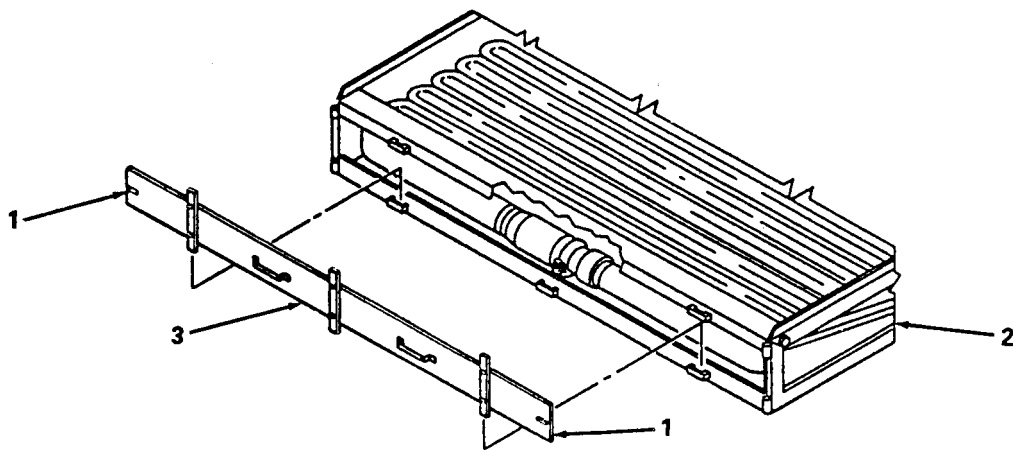

Figure 2-2. Removing Tailgate Assembly.
- (e) Using lifting shackles (6) as attachment points, securely tie flaking boxes to truck to prevent boxes from slipping during hose laying operations.
- (f) Remove tailgate assembly as follows (figure 2-2):
- 1 Slide latches (1) from flaking box (2).
- 2 Lift tailgate assembly (3) up and away from flaking box (2).